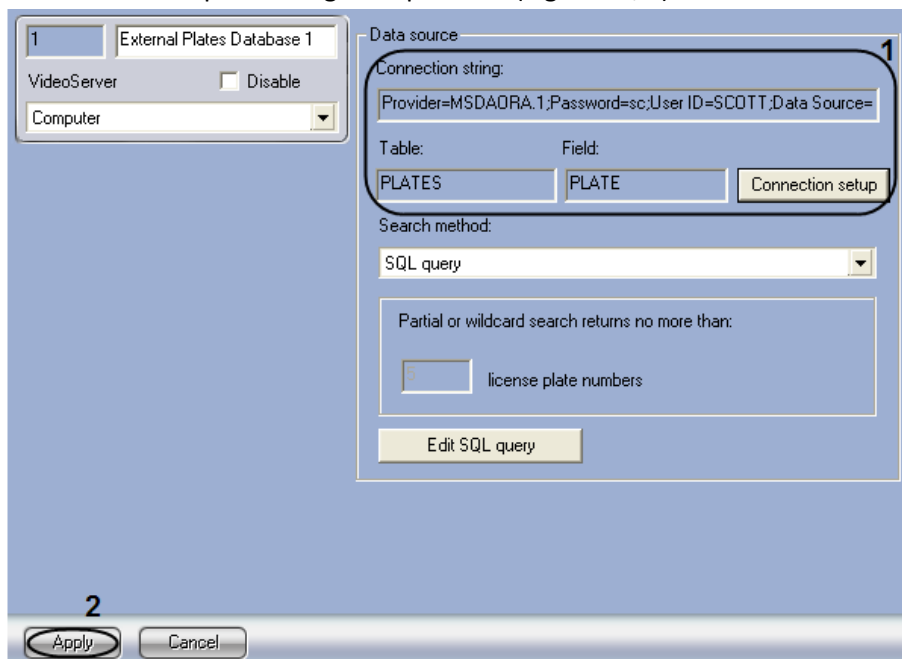

Fig. 7.5-7 External Plates database parameters
10. The fields Connecting string, table, Field on the External plates database settings panel will be filled in result of performing the operation (Fig. 7.5-7, 1) .
11. Click«Apply» (Fig. 7.5-7, 2).